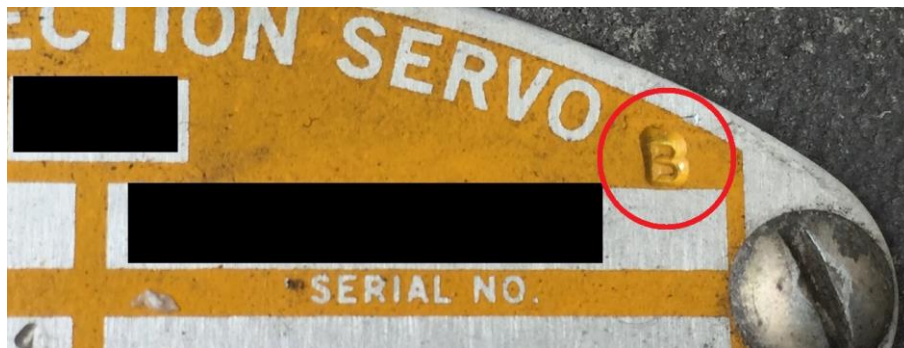

Figure 4
12. Upon installing the valve kit in the field, the servo data tag must be marked in the upper right quadrant with the letter "B" as shown in the red circle in Figure 4.